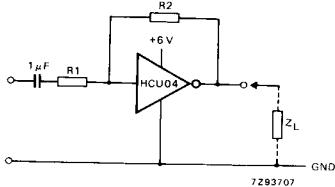

Fig. 12 HCU04 used as a linear amplifier.
- Linear amplifier (see Fig. 12)
Note to Fig. 12